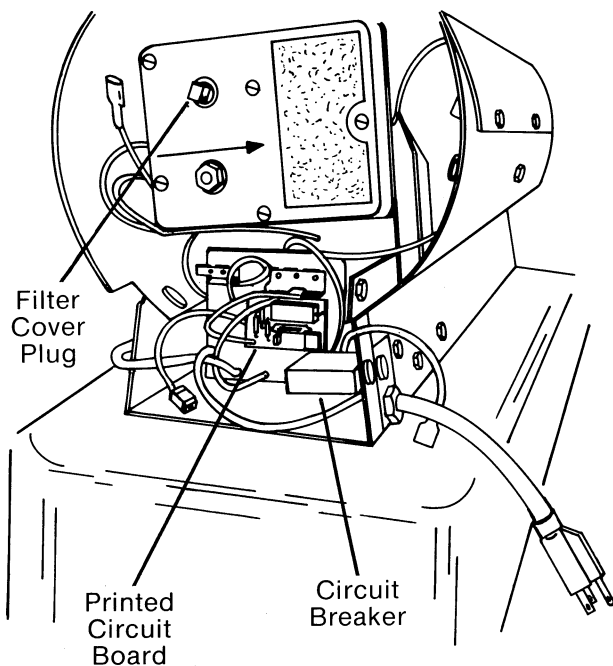

FIG. 16
1. Remove the service cover or top. Remove the plug from the air filter cover (Fig. 16) to prevent fuel from entering the combustion chamber.
1. All low pressure size heaters have the circuit breaker and the printed circuit board mounted on the air intake end of the heater. See (Fig. 16) The flame detector on these heaters is mounted at the rear of the combustion chamber and is connected to the electrical terminal block. The circuit
2. Disconnect the air line from the air output filter body or remove the plug from the filter cover. (Fig. 16) This will prevent fuel from entering the combustion chamber during the tests.